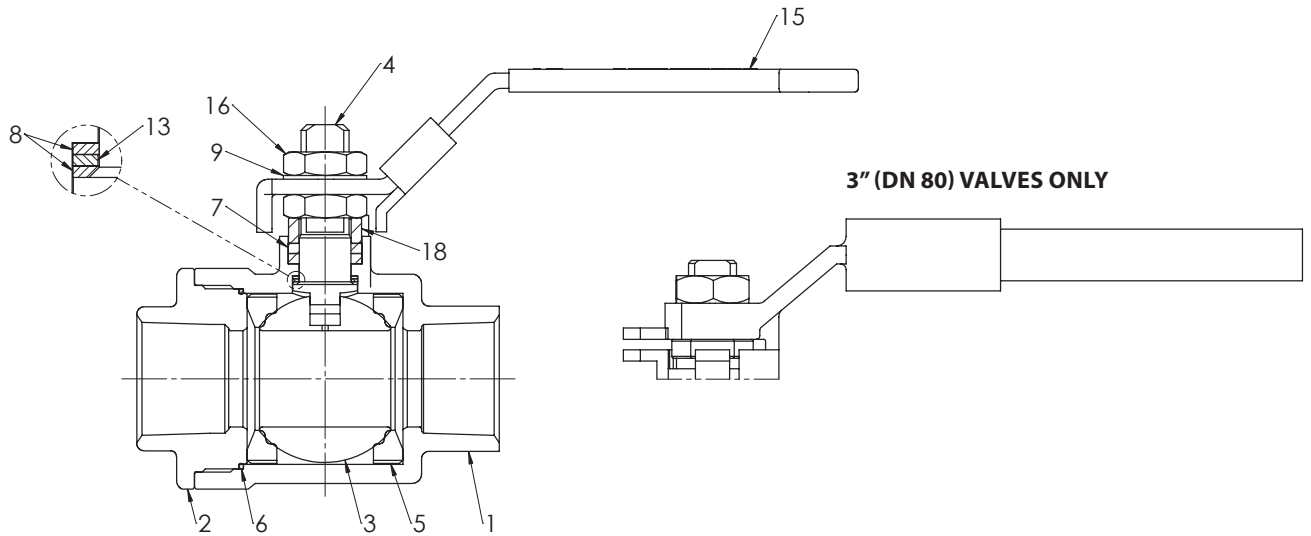

Figure 5
If the Series 6F valve handle (15) has to be removed for any reason, the handles must be remounted with the handle stop tang as shown in **Figure 5**.
Good operating procedure requires periodic observation to ensure that the valve is functioning well. The frequency of observation will depend on the application. Routine maintenance consists of tightening the lower stem nut (16) 1/4 turn periodically to compensate for wear caused by the stem turning against the seal. Loosen the upper stem nut (16) on top of the handle (15) before tightening the lower stem nut. Retighten the upper stem nut after tightening the lower stem nut. (See **Figure 5**)
- c. From **Figure 5**, the ballooned part number, part name and quantity required.